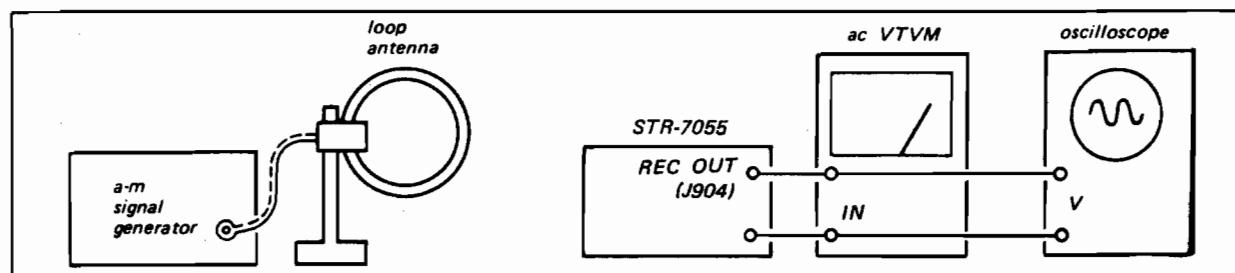

Fig. 3-7. A-m frequency coverage and tracking alignment test setup
1. Connect the test equipment as shown in Fig. 3-7.